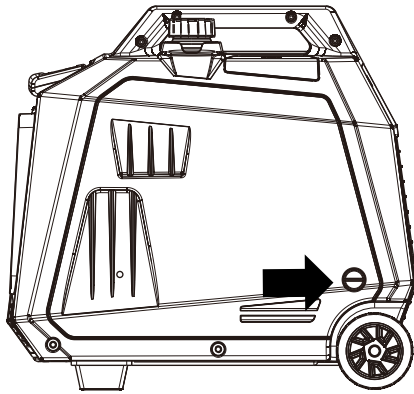

Figure 1: Engine Service Panel
1. Loosen the knob on the right exterior cover and remove the right exterior cover (see Figure 1).